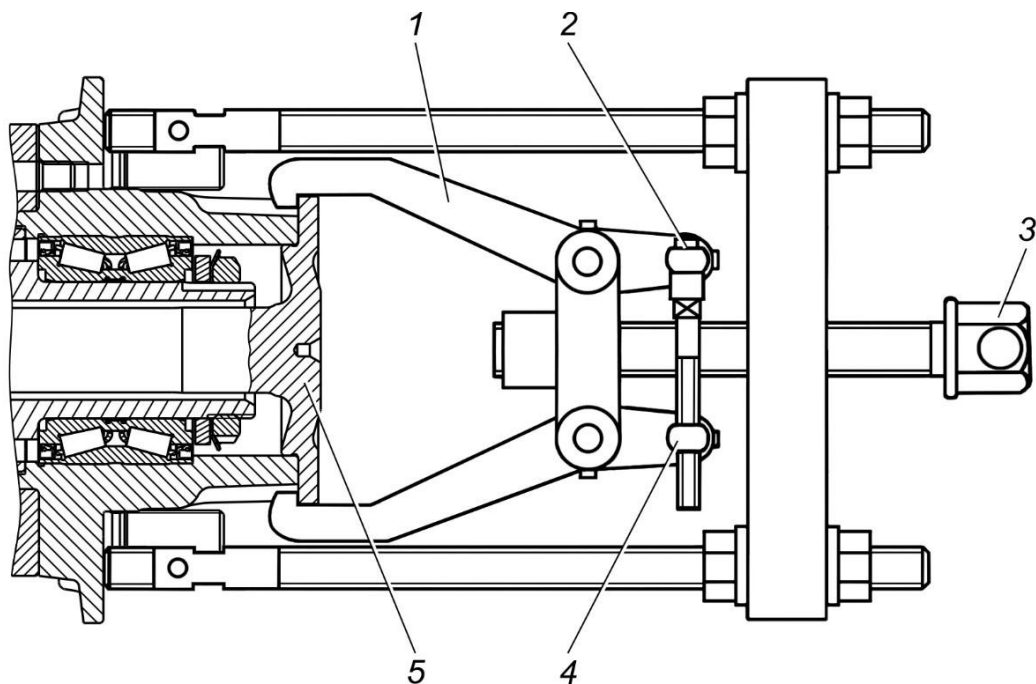

Fig. 3.77. Rear axle shaft removal: 1 – legs; 2 – bolt; 3 – screw; 4 – axle; 5 – axle shaft
- unscrew eight axle shaft mounting bolts per each and remove axle shafts using the puller (Fig. 3.77). To make sure that the legs 1 enter the hub recessions, bring legs together to the stop when unscrewing the bolt 2 from the axle 4. By turning screw 3, disengage axle shaft 5 from side gear;